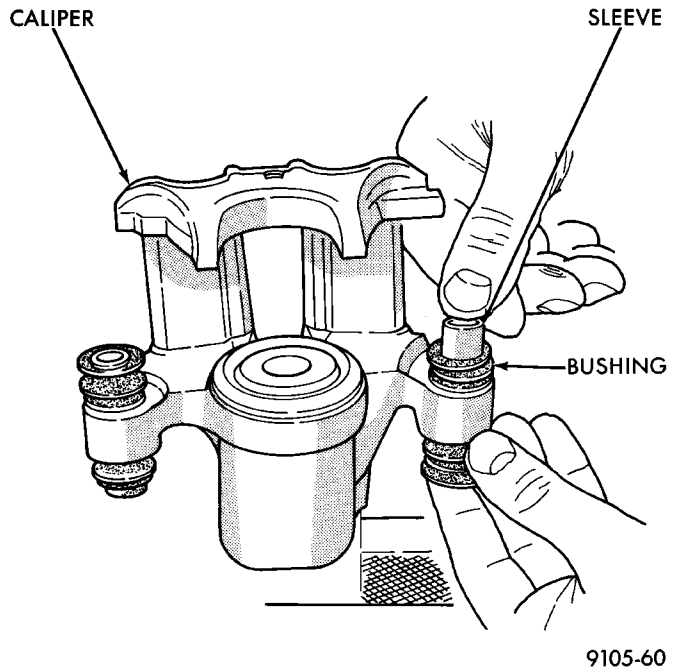

Fig. 173 Installing Sleeve In Bushing
(4) Lubricate the inside surfaces of the bushing using Mopar, Silicone Dielectric Compound or an equivalent.
(5) Install guide pin sleeve into one end of bushing until seal area of bushing is past seal groove in sleeve (Fig. 173).
(6) Holding convoluted boot end of bushing with one hand, push steel sleeve bushing through boot
until one end of bushing is fully seated into seal groove on one end of sleeve (Fig. 173).